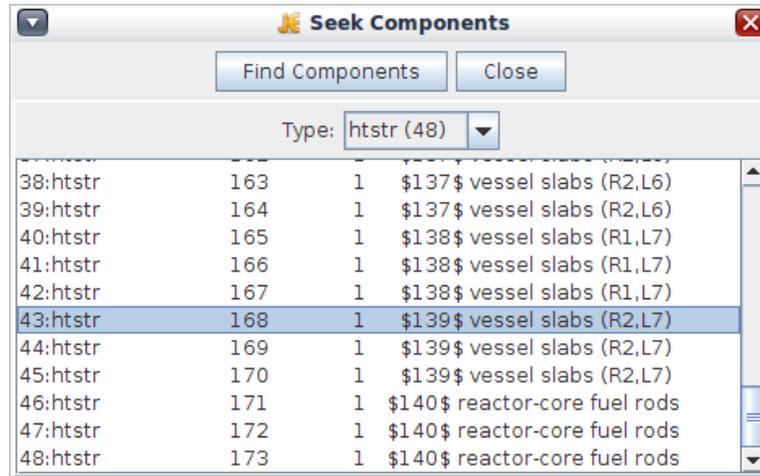

Figure 7.2. The Seek Components Dialog
- **Seek Components** - The Seek Components dialog (shown in Figure 7.2, “The Seek Components Dialog”) is used to locate components within the input deck. The type drop-down contains a list of component types found in the model along with the number of each type located in parentheses. The components for the selected type are displayed in the list. Selecting a component in the list will result in that component being scrolled into view. The Seek Components dialog currently supports the TRACE and RELAP5 analysis codes.